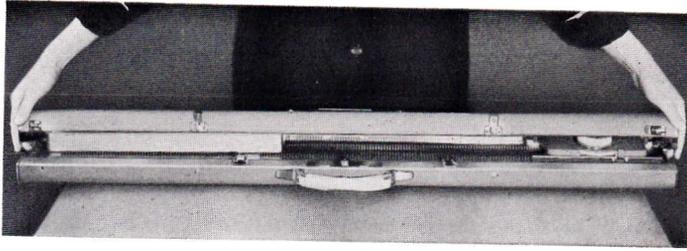

Fig. 4
- c. Lift the upper case about 1" and pull toward you. (See Fig. 4)